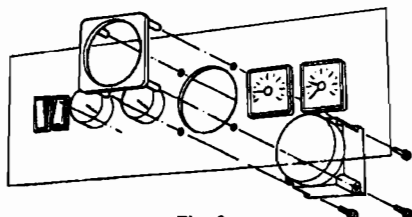

Fig. 2
Insert the clock into the aperture from the back of the control panel. Push the mounting bezel (2) through the front panel and secure to the clock using the four screws provided. (See fig 2)